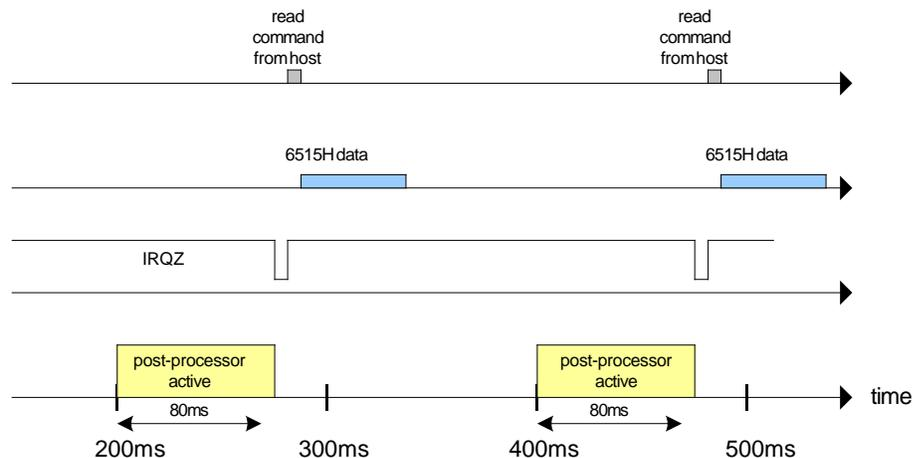

Figure 19: Timing Diagram (Using IRQZ, *SUM_CYCLES* = 12)
The four-wire three-phase delta configuration is shown in Figure 19. In this case, the center tap of the transformer that provides the A-C voltage is grounded. the grounded wire is connected to V3P3A. For this configuration, equation 2 must be selected. For this configuration, equation 3 must be selected, i.e. $P = V_A * (I_A - I_B) / 2 + V_C * I_C$.
- 1) Synchronization using the IRQZ pin of the 71M6515H (interrupt or DIO pin polling method, see Figure 19):